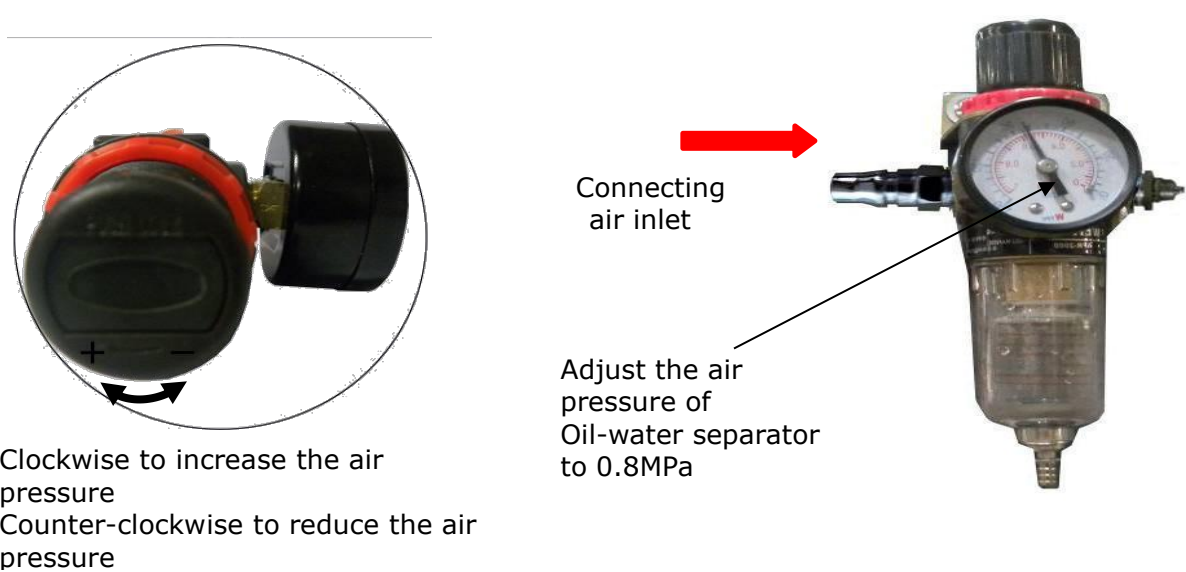

Fig. 15
5. Connect air inlet, adjust the air pressure of oil-water separator to 0.8MPa. (See Fig.15)